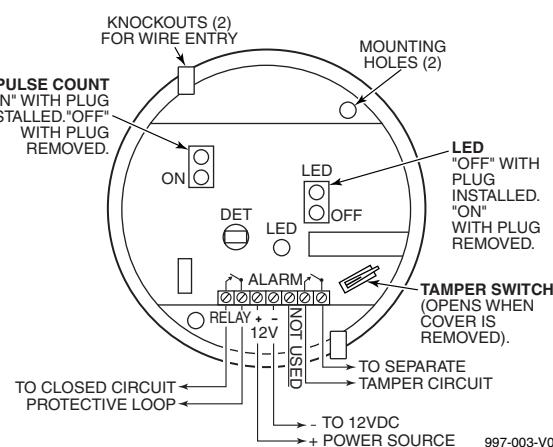

Figure 3. PC Board (in base of PIR)
3. **Break out one of the two knockouts** that have been provided for wire access (see Figure 3), and pass the wires into the base of the PIR. **Caution:** Be certain that wires do not obstruct the detector's field of view.
4. **Connect all wires** to the screw terminals (see Figure 3 for wiring details). Seal all openings in the base with foam or RTV (not supplied) to prevent drafts or insects from entering the unit.
The detector is shipped with the Alarm LED disabled (LED enable/disable plug in place). The LED should be enabled (for a walk-test) by *removing* the LED enable/disable plug (see Figure 3 for location). To prevent the loss of the plug, we suggest you install it on one pin when the plug is not in use. When the walk-test is completed, the LED may be disabled, if desired (plug in place).
This PIR is equipped with a cover tamper switch. With cover on, the switch is closed; when cover is removed, the switch opens. The tamper terminals (see Figure 3) should be connected to the control panel's tamper loop.
Each detector includes Pulse Count circuitry that is designed to provide stability in adverse environments to minimize false alarms. Two-event pulse count is provided by positioning the jumper plug across the pulse count pins (see Figure 3 for location). To select one-event pulse count (instant response), remove the jumper plug. When programmed for 2-event pulse count, the detector will signal an alarm within 3 or 4 steps, since the processing logic requires more complex motion than just a momentary event. When the detector verifies an intrusion, the LED will light and the alarm relay contacts will transfer, both conditions lasting for approximately 1 to 3 seconds (dependent upon signal strength).